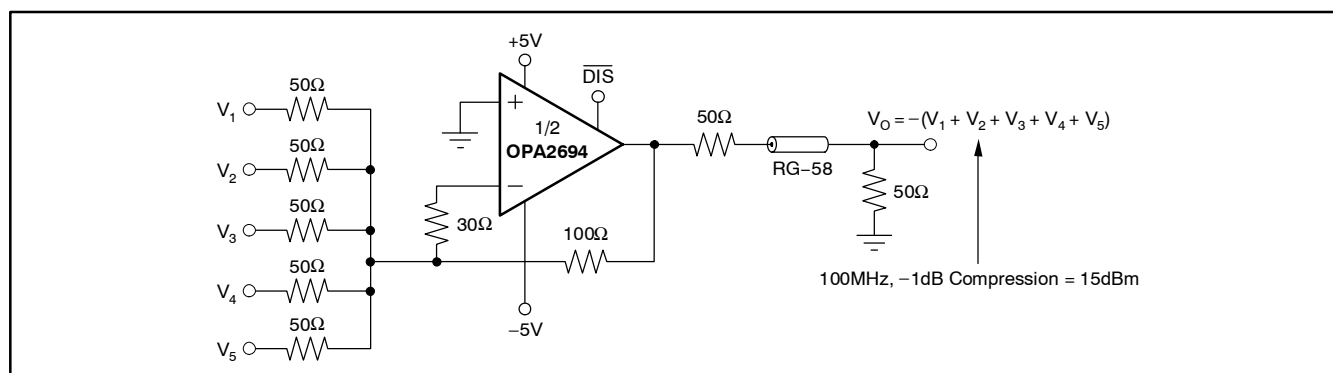

Figure 4. 200MHz RF Summing Amplifier
gain), wideband inverting summing stages may be implemented using the OPA2694. The circuit in Figure 4 shows an example inverting summing amplifier, where the resistor values have been adjusted to maintain both maximum bandwidth and input impedance matching. If each RF signal is assumed to be driven from a 50Ω source, the NG for this circuit will be $(1 + 100\Omega/(100\Omega/5)) = 6$. The total feedback impedance (from V_O to the inverting error current) is the sum of $R_F + (R_i \cdot \text{NG})$, where R_i is the impedance looking into the inverting input from the summing junction (see the *Setting Resistor Values to Optimize Performance* section). Using 100Ω feedback (to get a signal gain of -2 from each input to the output pin) requires an additional 30Ω in series with the inverting input to increase the feedback impedance. With this resistor added to the typical internal $R_i = 30\Omega$, the total feedback impedance is $100\Omega + (60\Omega \cdot 6) = 460\Omega$, which is equal to the required value to get a maximum bandwidth flat frequency response for $\text{NG} = 6$.
The total impedance going into the inverting input may be used to adjust the closed-loop signal bandwidth. Inserting a series resistor between the inverting input and the summing junction will increase the feedback impedance (denominator of Equation (2)), decreasing the bandwidth. This approach to bandwidth control is used for the inverting summing circuit of Figure 4. The internal buffer output impedance for the OPA2694 is slightly influenced by the source impedance looking out of the noninverting input terminal. High source resistors will have the effect of increasing R_i , decreasing the bandwidth.